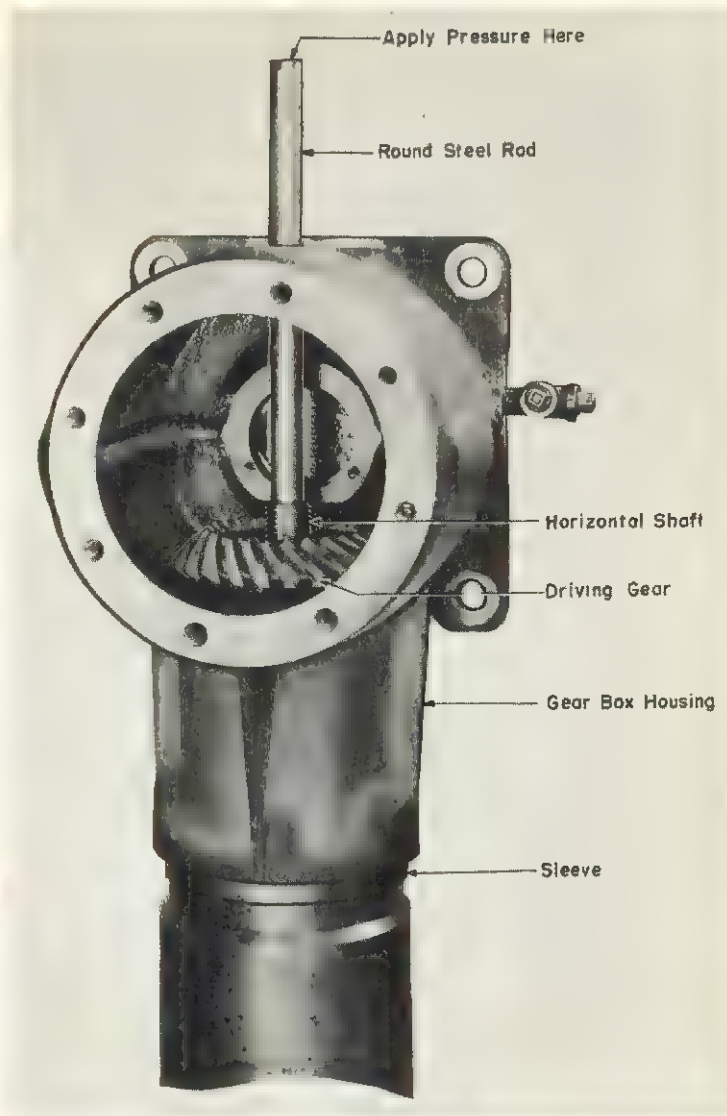

Fig. 3-12
- c. Place gear box in hydraulic press, supporting it on flanged end of sleeve. See Fig. 3-12. Horizontal shaft will drop down until hub of gear will rest against end of sleeve. Remove pipe plug from large hole in end wall of gear box.
- d. Insert a round bar through pipe-plug hole in box and with end against end of horizontal shaft, press shaft out of the gear. See Fig. 3-12. Protect end of shaft by placing a copper plate between end of bar and end of shaft.